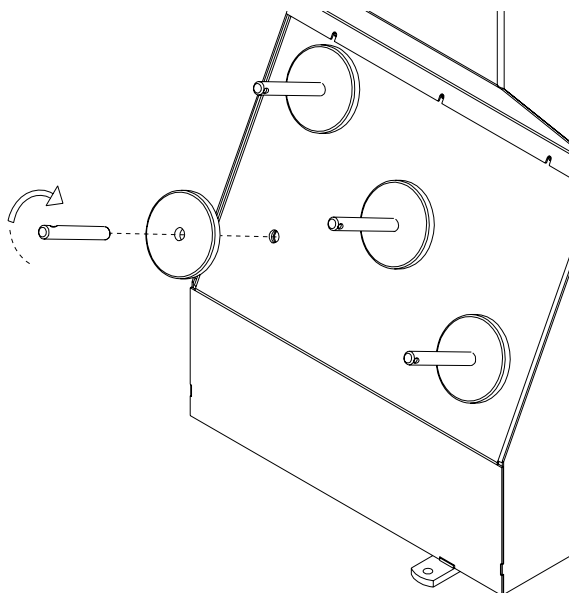

Figure 7
**B.** Install the accessory pins (Figure 7). Tighten firmly.